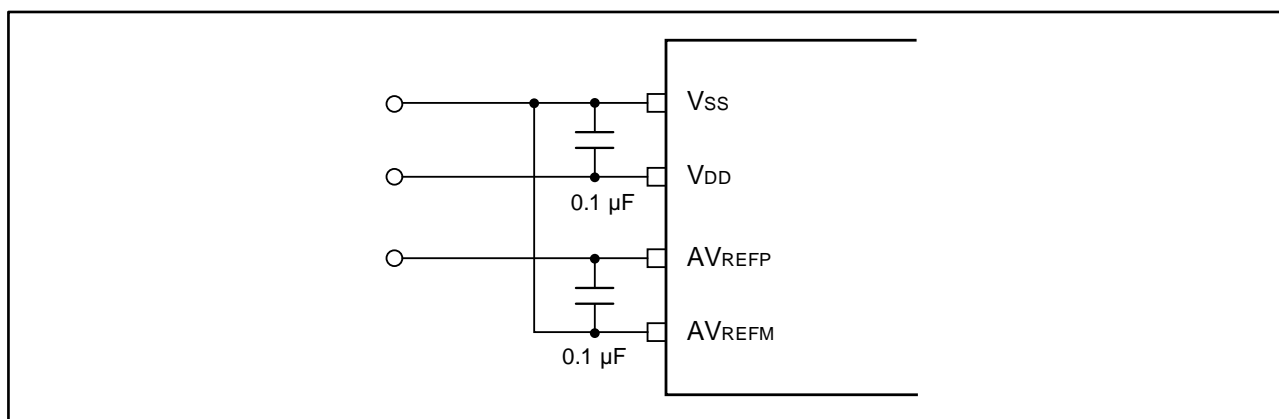

Figure 11: Power Supply Pin Connection Example
- (1) Connect a capacitor with a low equivalent resistance and a good frequency response to the power supply.
- (2) The higher the output impedance of the analog input source, the greater the influence. To reduce the noise, connecting external capacitor as shown in Figure 11 is recommended.
- (3) Do not switch these pins with other pins during conversion.
- (4) The accuracy is improved if the HALT mode is set immediately after the start of conversion.
| | | P.21 | Added new description "1.6.2 Notes on Board Design", and Figure 11, "Power Supply Pin Connection Example". |